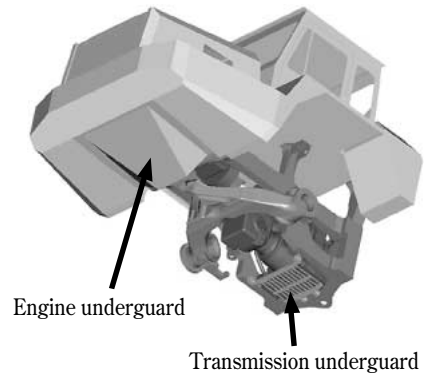

Fig. 9 Underguards
Various guards to protect the operator and truck are installed as standard (Figs. 9, 10 and 11).
- Engine underguard (Fig. 9)
- Transmission underguard (Fig. 9)